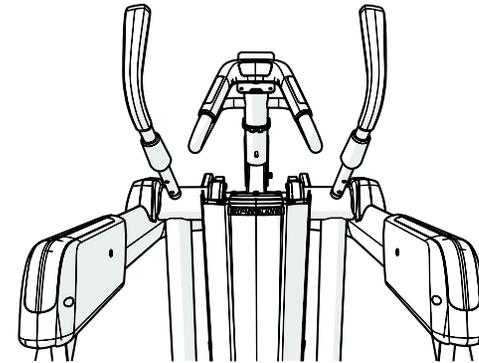

Figure 19
5. Adjust the positions of both handlebars outward as much as possible. Both handlebars should be at equal angles to the body of the AMT and angled slightly outward (see Figure 19).